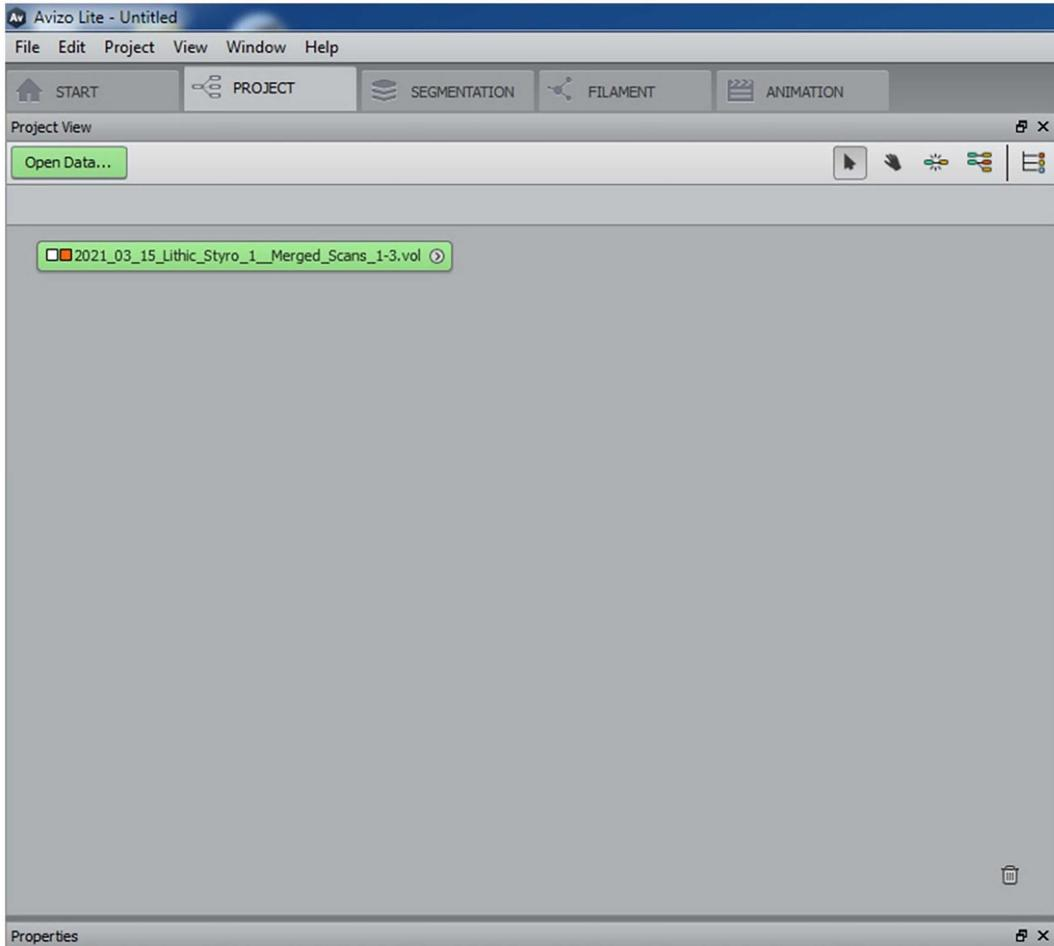

Fig. 11: Partial screenshot of the 'Label Panel' with loaded vol file.
- 20.11** Now, Avizo should load and open the vol file (Fig. 11).